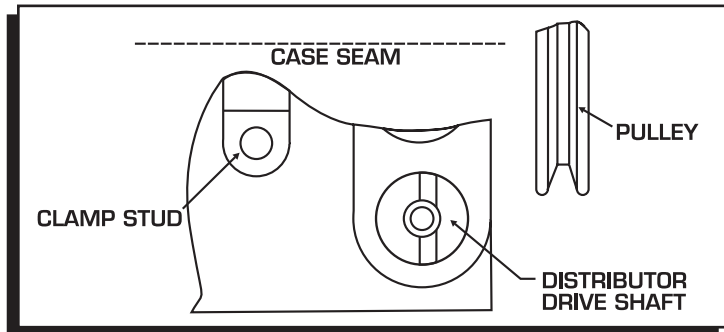

Figure 7 Distributor Driveshaft Position.
4. Make sure the position of the distributor driveshaft slot is perpendicular to the case seam (Figure 7). If not, move it to the proper position.